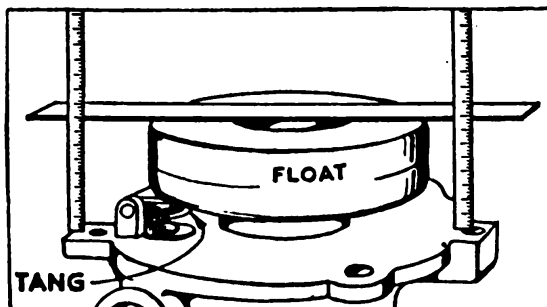

FIG. 9. CARBURETOR FLOAT ADJUSTMENT
Caution: The upper and lower carburetor bodies are interlocked by the nozzle, and failure to disassemble in above order will damage the parts. To check the carburetor inlet valve and seat, pull out the brass pin holding the carburetor float (82). A worn or dirty inlet valve and seat, or incorrect float level, will cause the carburetor to leak. In reassembling, the float should be in a horizontal position, with relation to the upper carburetor body, when it closes the valve. To check the float position, invert the upper carburetor body and place a scale or a flat, straight piece of steel across the carburetor float and see that the distance from the top of the float to the carburetor body flange is the same on both sides of the float (Fig. 9). The float hinge tang can be bent to attain proper position of the float. If any parts are gummy, clean them in alcohol or acetone. Blow through all passages and openings. *Do not use wire to clean out small holes.* Replace worn or damaged parts. To reassemble reverse the instructions given for disassembling.